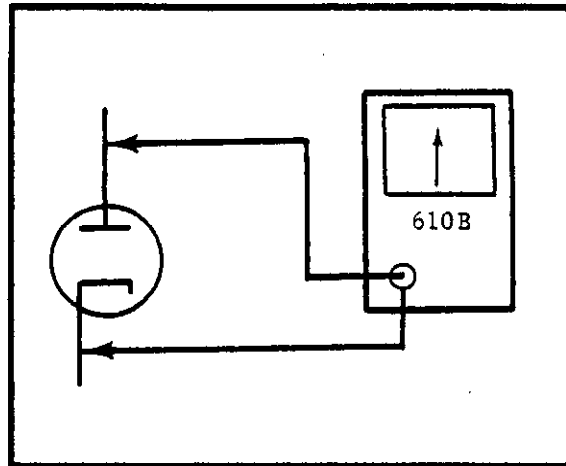

FIGURE 12. Measuring Diode Characteristics with Model 610B. Use the OHMS ranges of the Electrometer.
c. Measuring Diode Characteristics. The Model 610B can accurately measure diode characteristics in one simple step without using any other equipment. The circuit is shown in Figure 12. The measurements are made on the Model 610B OHMS ranges, selecting constant currents down to 10^{-11} ampere in decade steps and reading the voltage drop across the diode. The characteristic curve can then be plotted in volts and amperes or volts and ohms. Read the voltage from the meter.